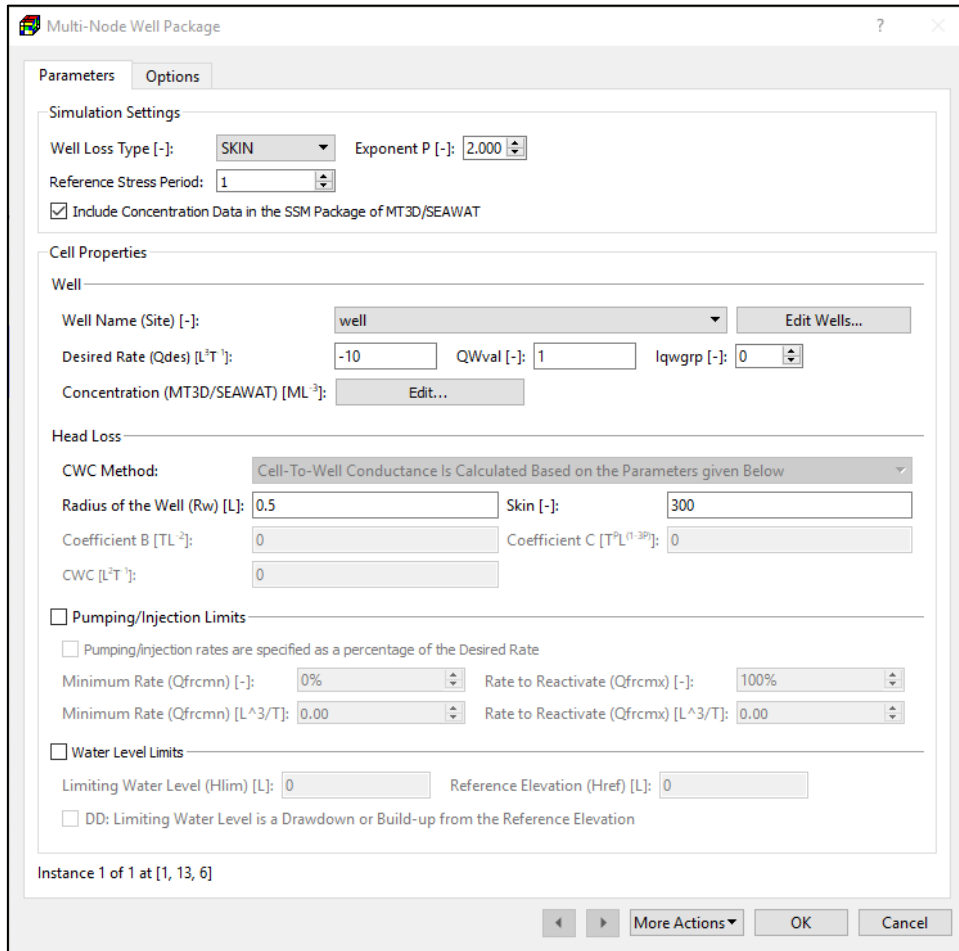

Figure 66. The Multi-Node Well Package dialog box
1. **Cell-by-cell input method:** Figure 66 shows the dialog box for specifying cell properties.